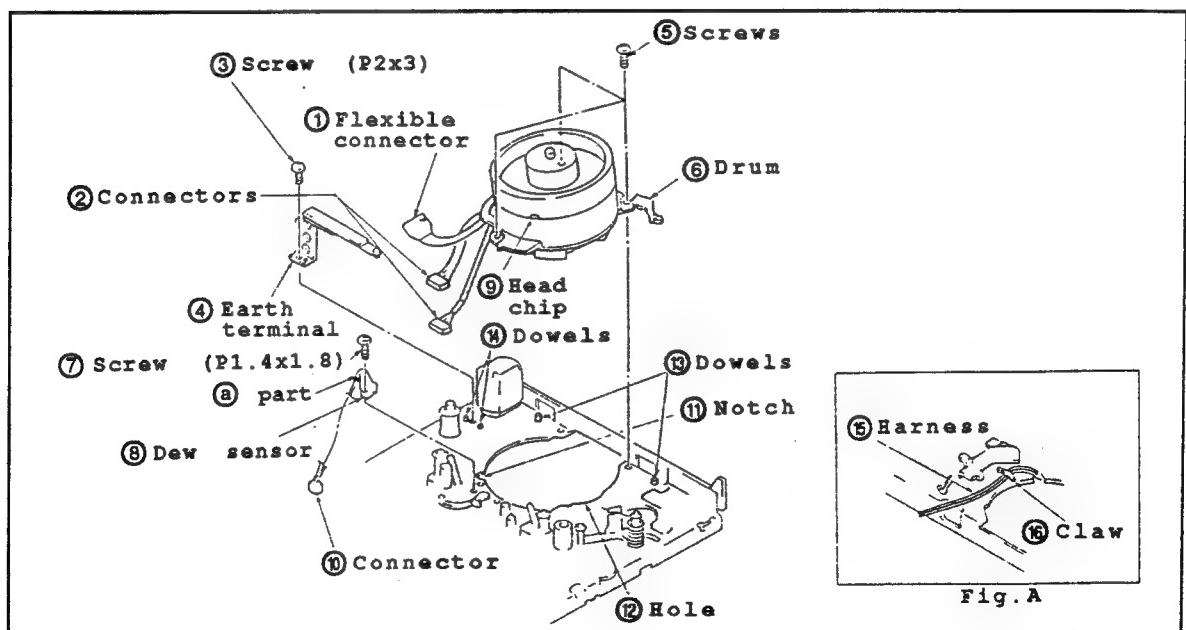

Fig.II-19
- Disassembling (Fig.II-19)
- (1) Set unloading state.
- (2) Unplug the flexible connector ① and the connectors ②.
- (3) In the same procedures in "3-2", detach the guide guard.
- (4) To detach the earth terminal ④, remove the screw ③.
- (5) To dismount the drum ⑥ from the chassis, remove the three setscrews ⑤.
- (6) Disconnect the connector ⑩.
- (7) To detach the dew sensor ⑧, remove the screw ⑦.
- Reassembling (Fig.II-19)
- (1) Mesh the ⑨ part of dew sensor ⑧ with the notch ⑪. Then, secure them with the screw ⑦.
- (2) Attach the connector ⑩.
- (3) Put the harness ⑯ of dew sensor ⑧ under the claw ⑯. (Fig.A)
- (4) Insert the connectors ② and the flexible connector ① into the chassis' hole ⑫.
- Then, mount the drum while aligning the dowels ⑬, and secure it with the screws ⑤.
- (5) While aligning the earth terminal ④ with the chassis' two dowels ⑭, secure it with the screw ③.
- (6) In the same procedures in "3-2", attach the guide guard.
- (7) Attach two connectors ② and the flexible connector ① to the C.B.A..
*Notes: 1. Be careful not to flaw the head chip ⑨ and the tape path surface of drum ⑥.